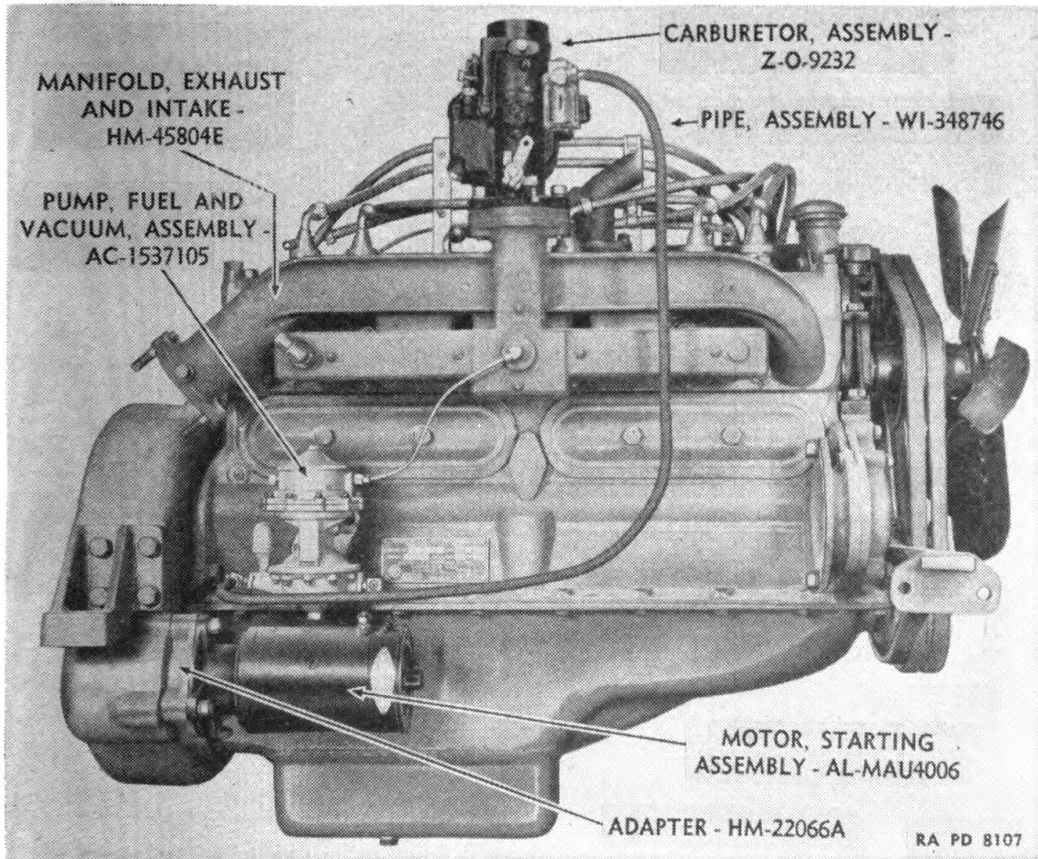
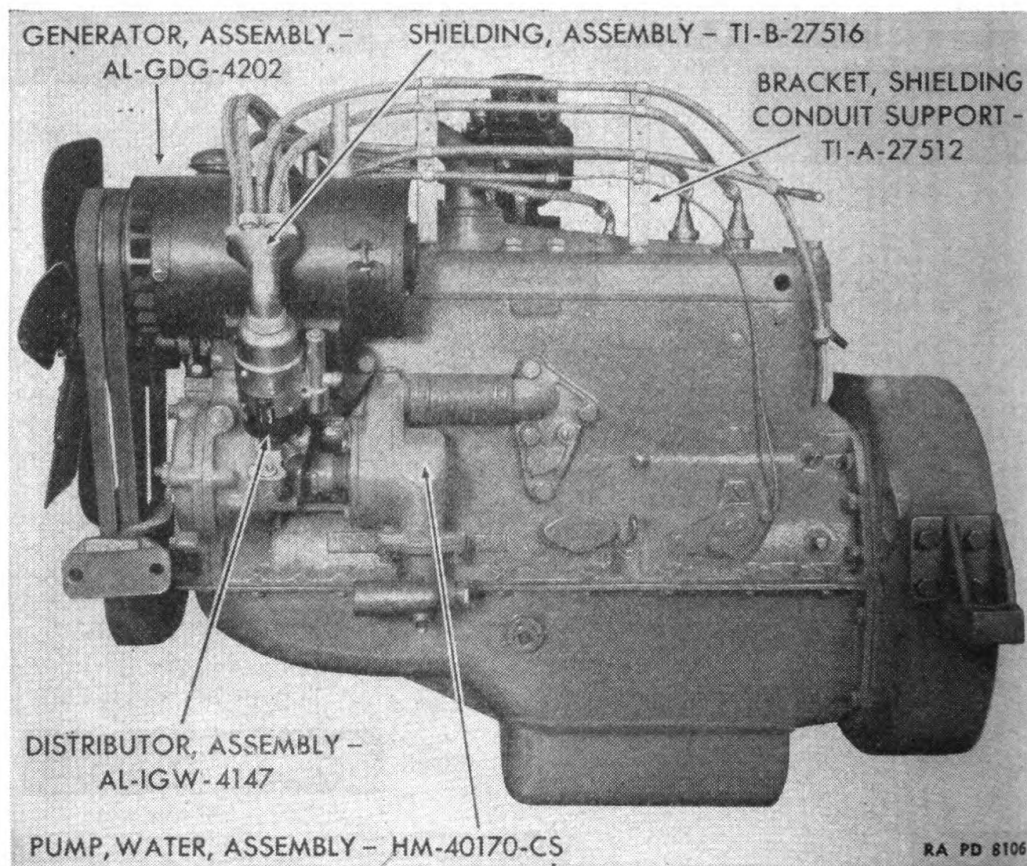

FIGURE 84.—Gasoline engine, dismounted, right side.
FIGURE 85.—Gasoline engine, dismounted, left side.
The cylinders and crankcase are cast in block with a detachable cylinder head. The inlet and exhaust manifold, carburetor, fuel pump, and starting motor are mounted on the right side (fig. 84). The water pump, distributor, generator, oil filler pipe, and oil level gage are mounted on the left side (fig. 85).
(9) The intake and exhaust manifold are cast in one piece (fig. 84). The intake manifold has a hot spot incorporated to provide for a shorter warming-up period.